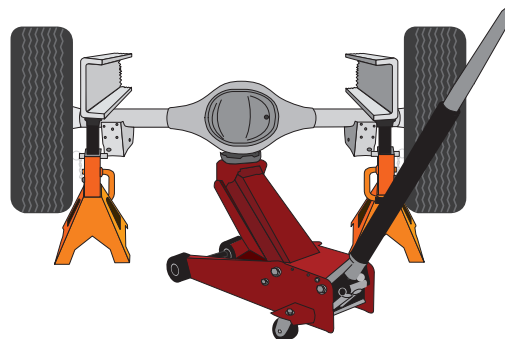

fig. E.1
- Lift the vehicle and support the frame with jack stands. Leave enough room to drop the axle down low enough to set the previously assembled air spring into position (Fig. E.1).